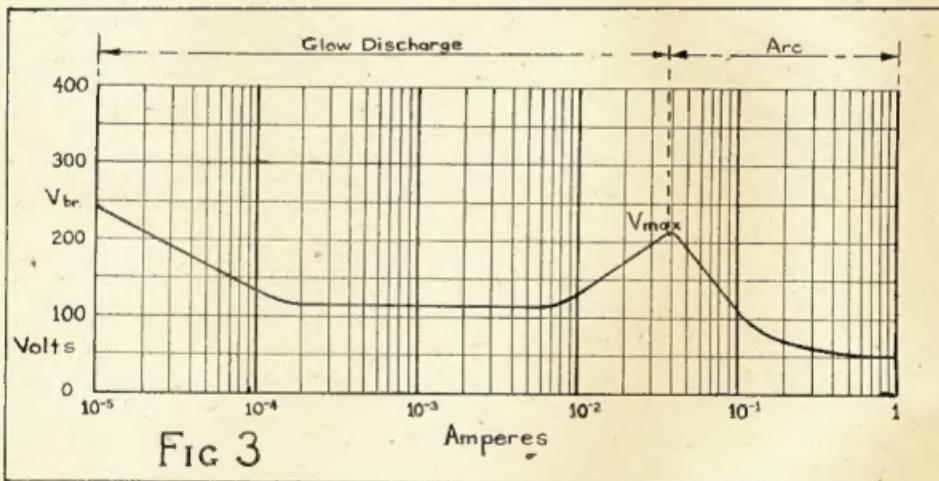

FIG 3
This stage is called glow discharge and in the region where its characteristic is horizontal is the condition of operation of voltage regulator tubes, which persists until the electrode is completely covered with glow. See Fig. 3. (2).
The use of special test anode enables this process to be observed and it takes place precisely according to the curve of Fig. 3. (3). In practice it is not possible to make a practically uniform anode in which there will not be local hot spots, nor to keep it perfectly free of material of low work function. The best results are obtained with unodes of graphite or metal anodes with carbon coating.